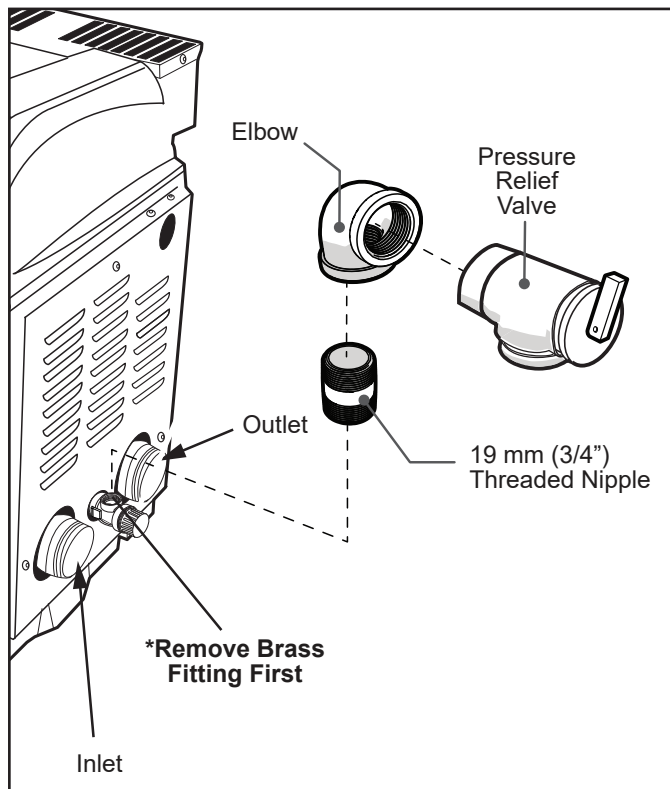

Figure 17. Pressure Relief Valve (PRV) Installation
The ICI gas heater allows for a PRV to be directly installed into the In-Out Header assembly as shown in *Figure 17*. Remove the brass plug located between the inlet and outlet to install the PRV.
- Install the PRV so that it is vertical. See *Figure 17*.